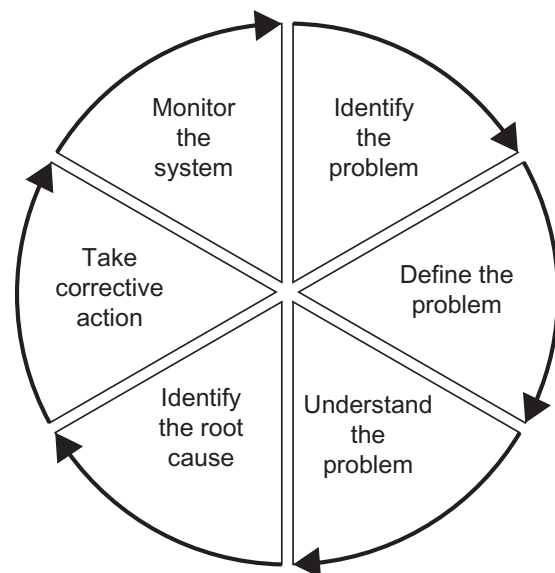

Figure 2.4 RCA process
- 6 Ensure effectiveness (Figure 2.4).